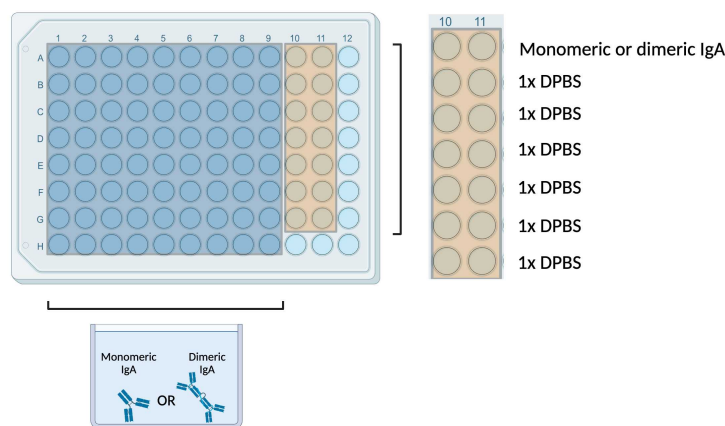

Figure 2: Coating Plate Layout
*Plate Layout (See **Figure 2**):*